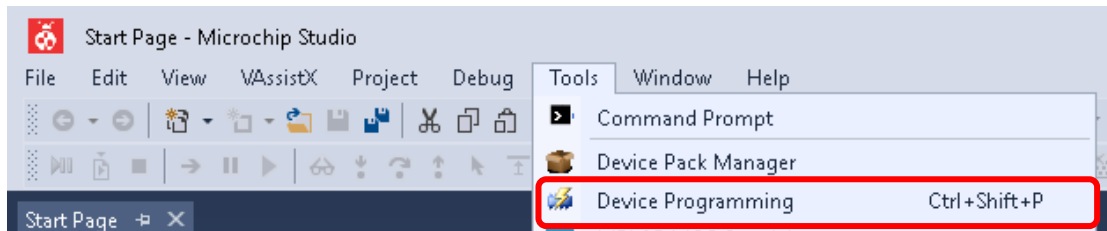
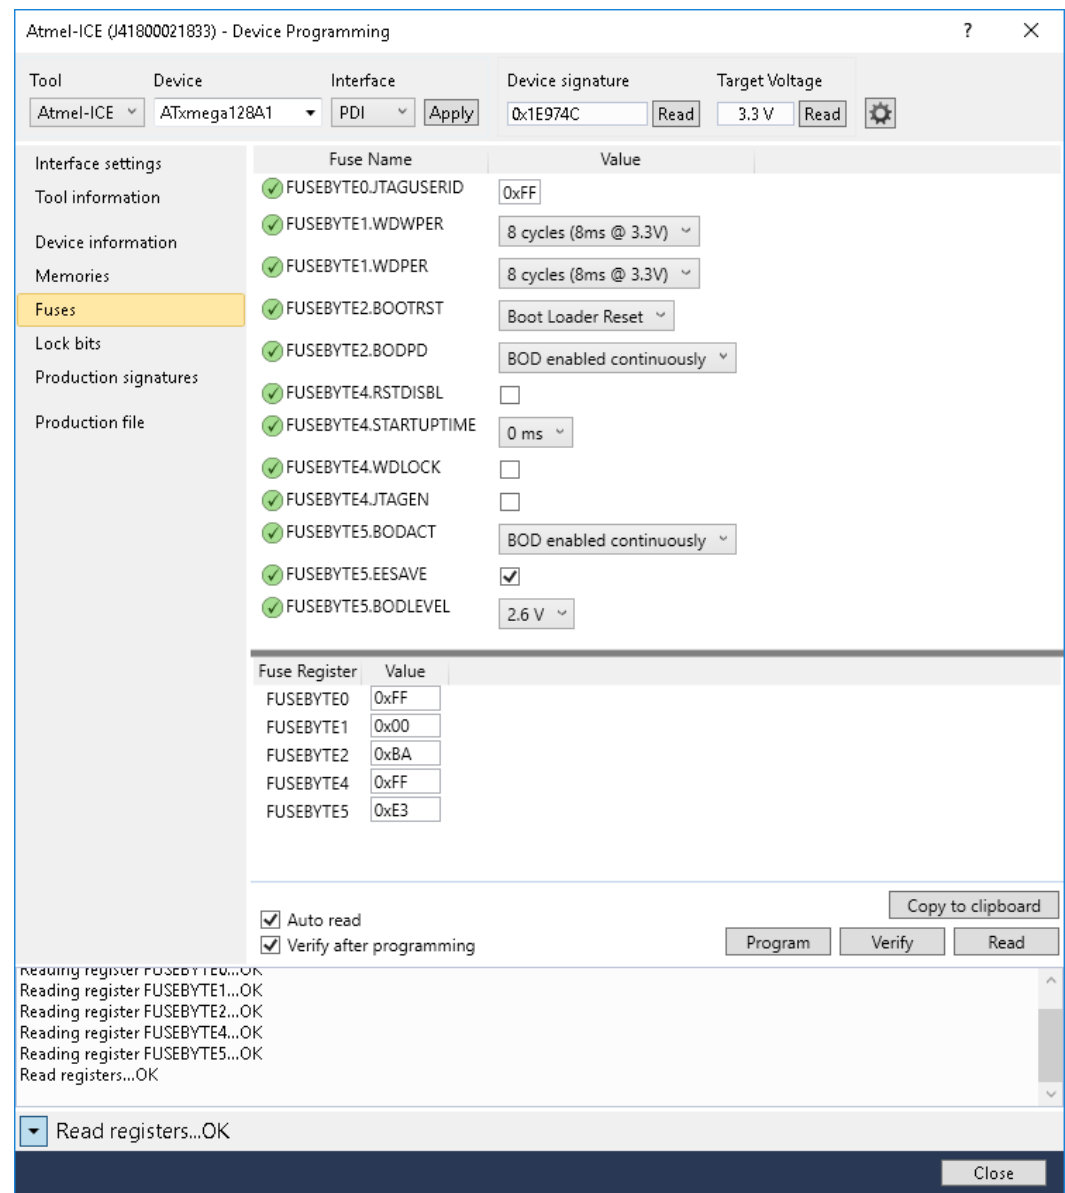

Figure 2: Atmel Device Programming Menu
Figure 3: Atmel Device Programming Menu (Fuses tab shown)
- (f) Click **Tools** from the Start Page bar (see Figure 2) and select Device Programming. The screen in Figure 3 will appear.
- (l) Select the Fuses tab (see Figure 3) and program the fuse Values as shown.